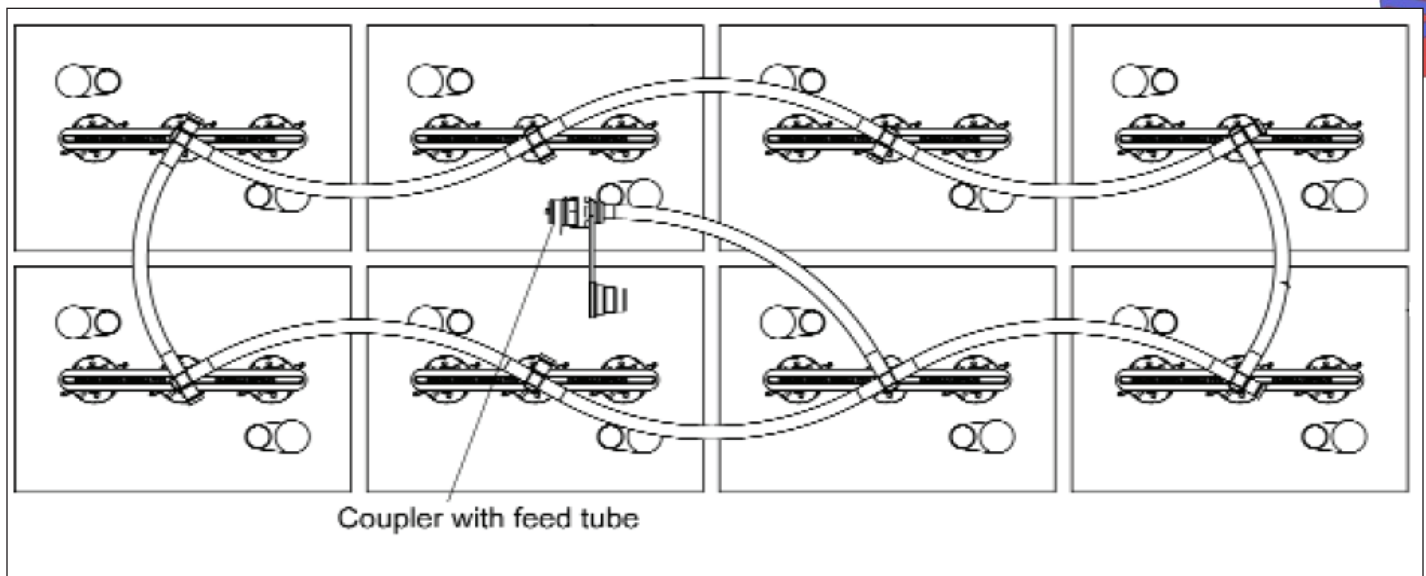

Figure 9-3. Special Order Single Point Watering System
5. Disconnect the couplers. Replace the dust cover on the single point coupler. Contact the Columbia Customer Service representative for more information or to order. See Figure 9-3.